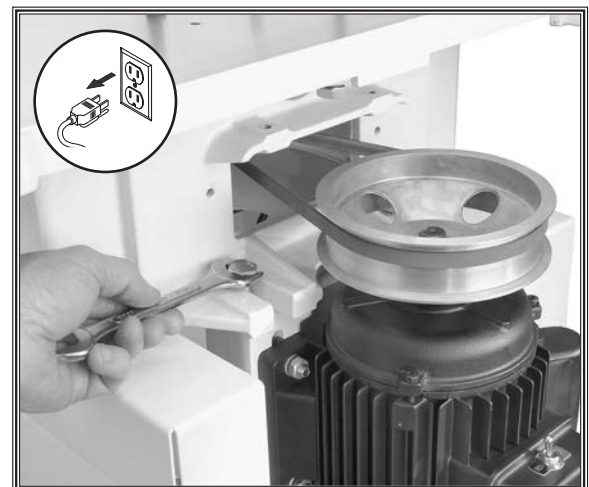

Figure 42. Adjusting belt tension.
You will need to remove the belt guard (see **Figure 42**) in order to perform the following steps.
3. Loosen both motor mount plate bolts (see **Figure 42**) and slide motor in or out to modify belt tension, while keeping the pulleys aligned.